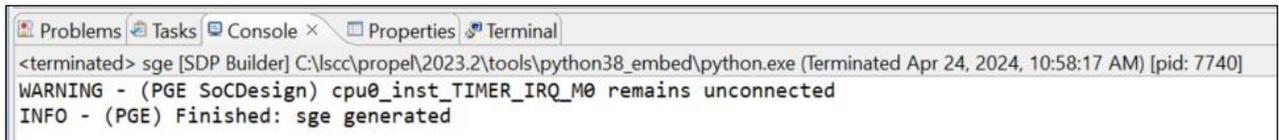

Figure 6.7. Build SoC Project Result
2. Check the build result from the **Console** view as shown in Figure 6.7.